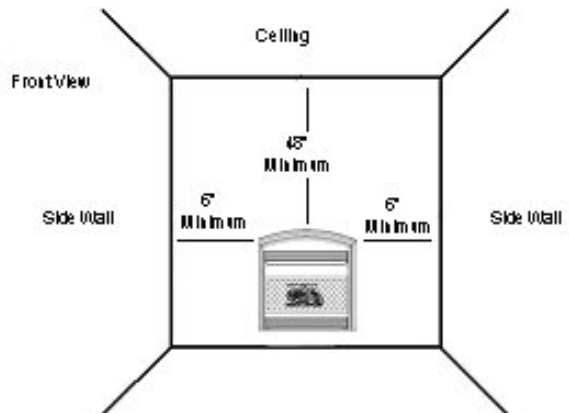

Figure 4 – Minimum Clearance to Wall and Ceiling
**IMPORTANT:** You must maintain minimum wall and ceiling clearances during installation. The minimum clearances are shown in Figure 4. Measure from outermost point of fireplace.
#### Minimum Wall and Ceiling Clearances (see Figure 4)